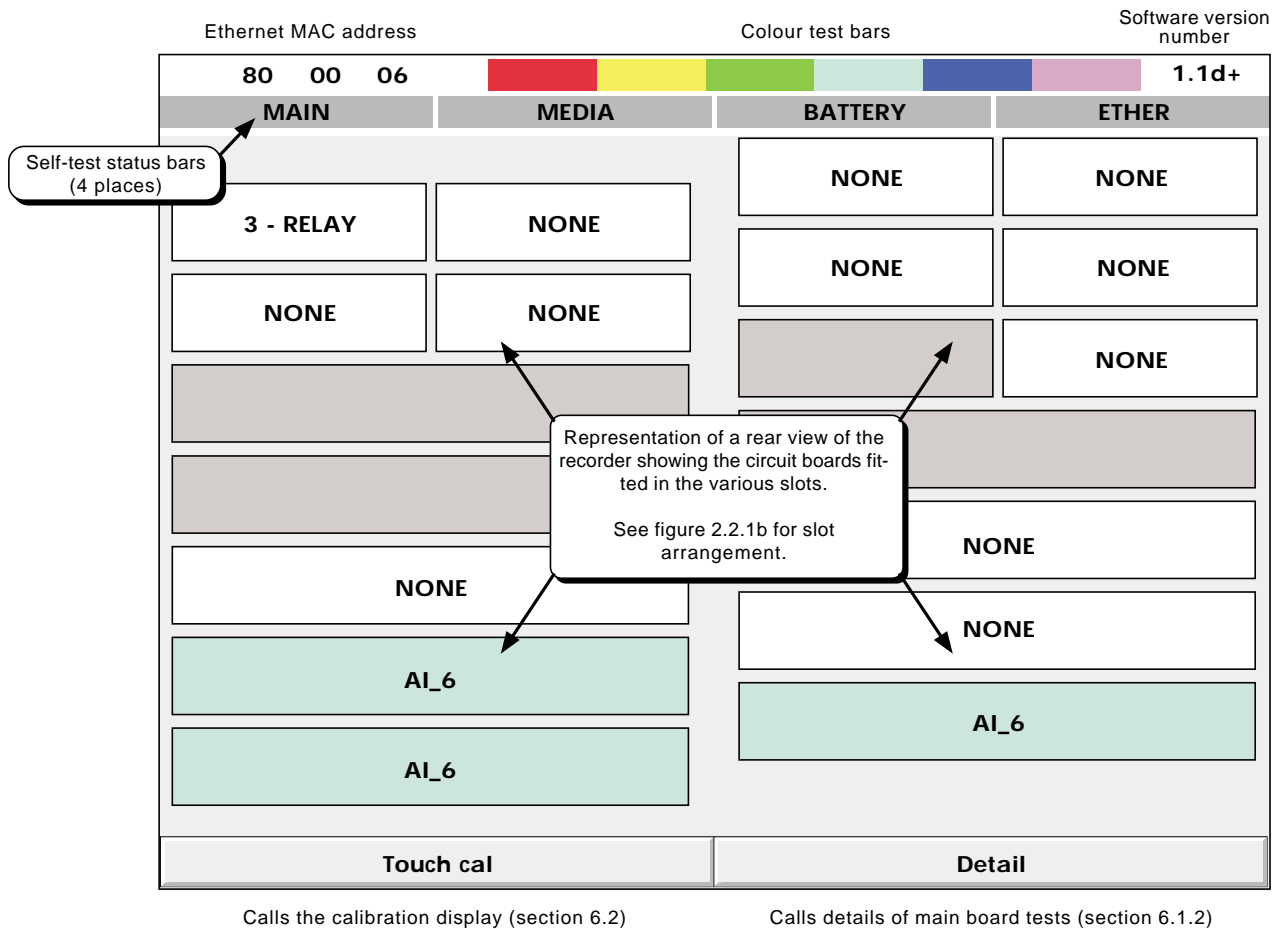
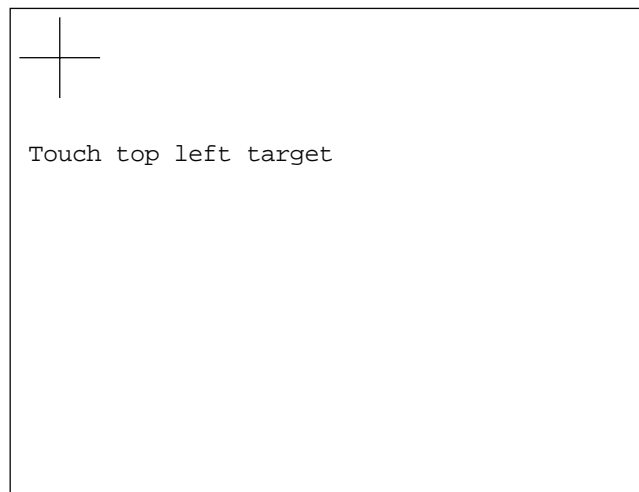

Figure 7.1a Top-level diagnostic display for large frame product
Figure 7.2 Initial calibration display
At power-up, continuously hold a finger in contact with the screen until (after approximately 30 seconds) the diagnostic display appears as shown in figure 7.1a for large frame products and 7.1b for small frame products. If no further action takes place within approximately five minutes, the display times-out to the calibration display below.
1. At power-up, continuously hold a finger in contact with the screen until (after approximately 30 seconds) the diagnostic display appears as shown in figures 7.1a/b. Operate the Touch cal key to call the first calibration screen, as depicted in figure 7.2\*